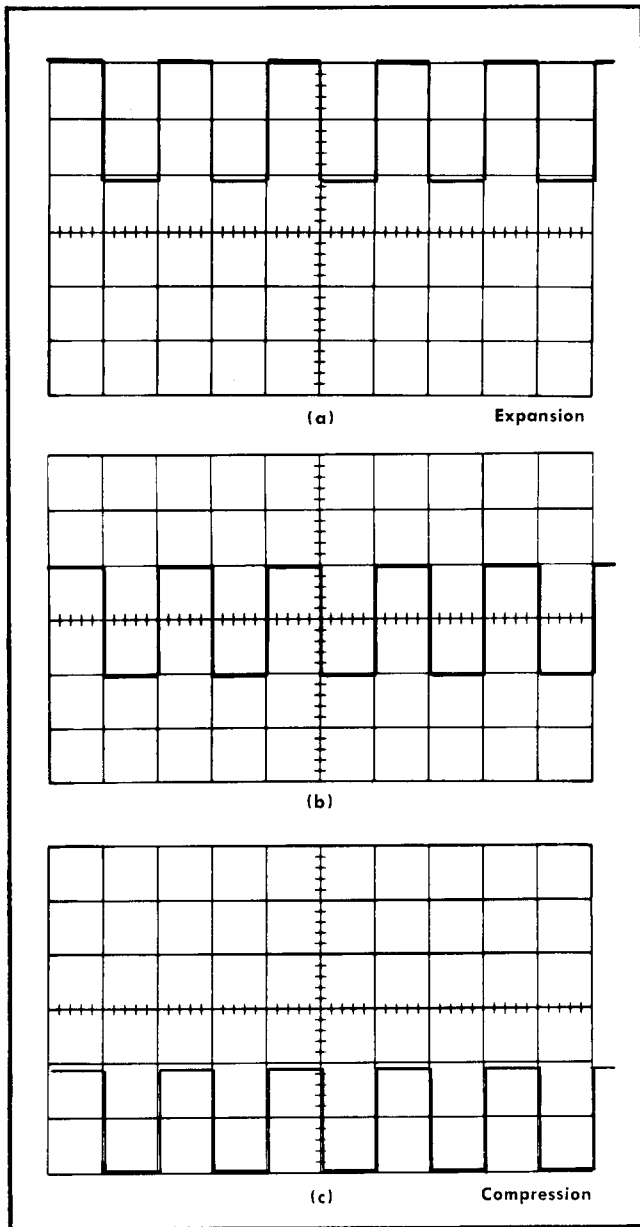

Fig. 5-4. Typical crt display showing acceptable compression and expansion. Waveform (a) shows expansion; waveform (c) shows compression.
- f. Check—Compression or expansion less than 0.15 division (see Fig. 5-4).
- h. Check—Compression or expansion less than 0.15 division (see Fig. 5-4).
- m. Check—Compression or expansion less than 0.15 division (see Fig. 5-4).
- o. Check—Compression or expansion less than 0.15 division (see Fig. 5-4).